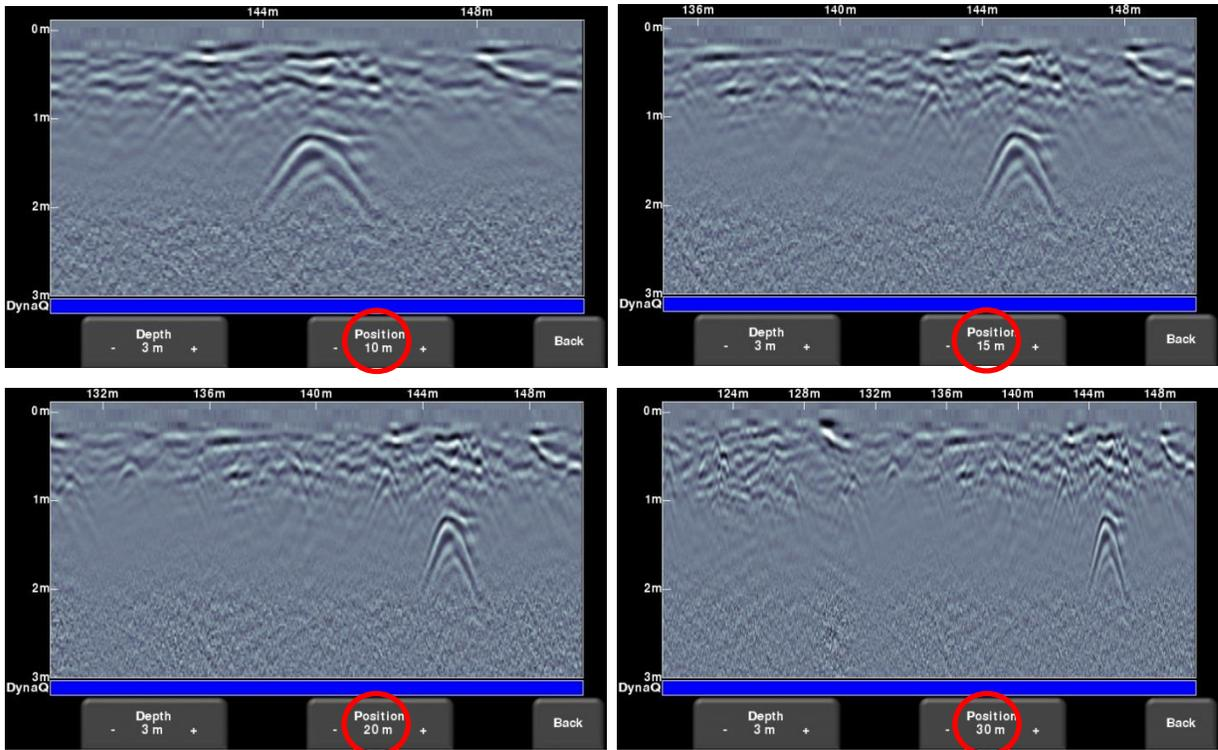

Figure 8-8: Varying position or horizontal scaling
- **Position** – Pressing **+** and **-** under the **Position** button allows you to change the length of data displayed on a single screen. This is also known as horizontal scaling. The pre-set values range from 10m to 30m (25' to 100'), see Figure 8-8.